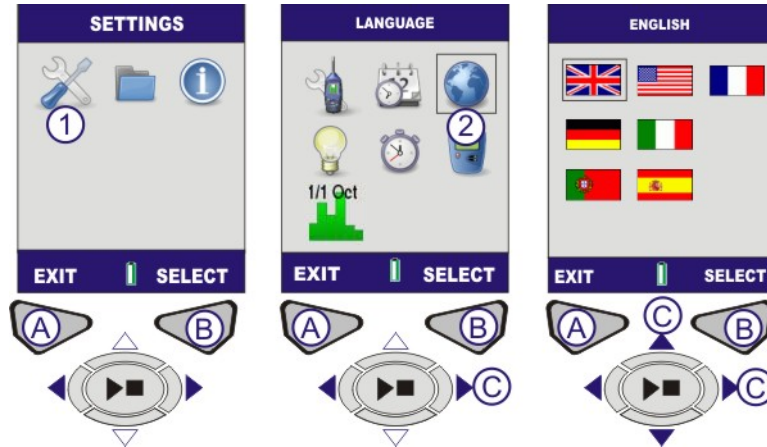

Figure 6 Set Language
**D. SET LANGUAGE** (Refer to Figure 6)